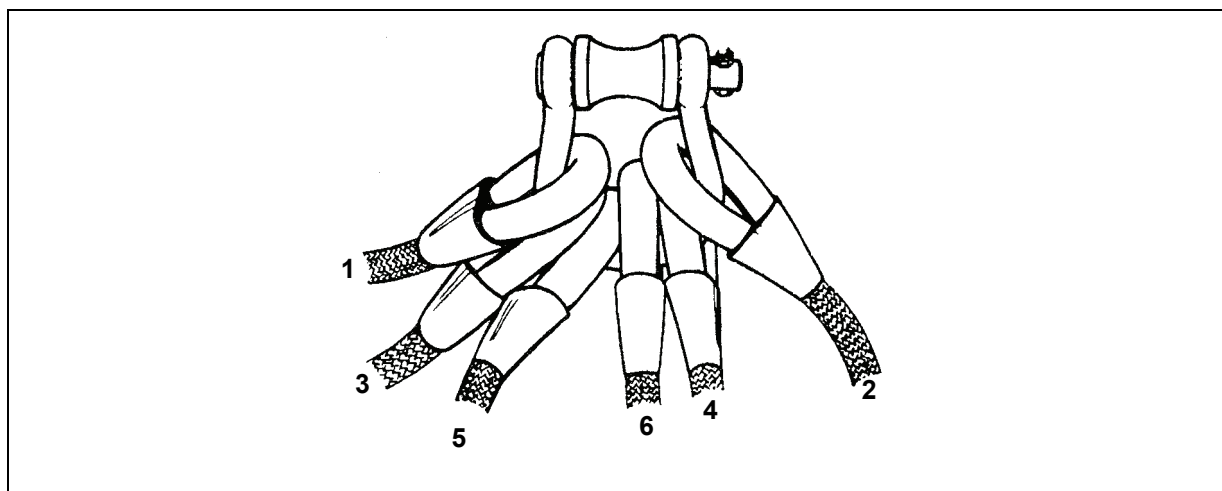

Figure 6-5. Sling Leg Numbering System
- Four nylon rope legs are usually attached to the apex fitting. Six rope legs can be attached to one apex fitting if the load requires it. In order to keep the sling legs from becoming tangled, sling legs are numbered in the following sequence: 1 and 2 are the outer sling legs, 3 and 4 are the inner sling legs, and if necessary, 5 and 6 are the innermost sling legs (Figure 6-5). Odd-numbered sling legs are connected to the left side of the load; therefore, they are on the left side of the apex. If a load is rigged with only one sling leg, you can attach the top eyelet of the sling leg directly on the cargo hook, eliminating the need for the apex fitting.